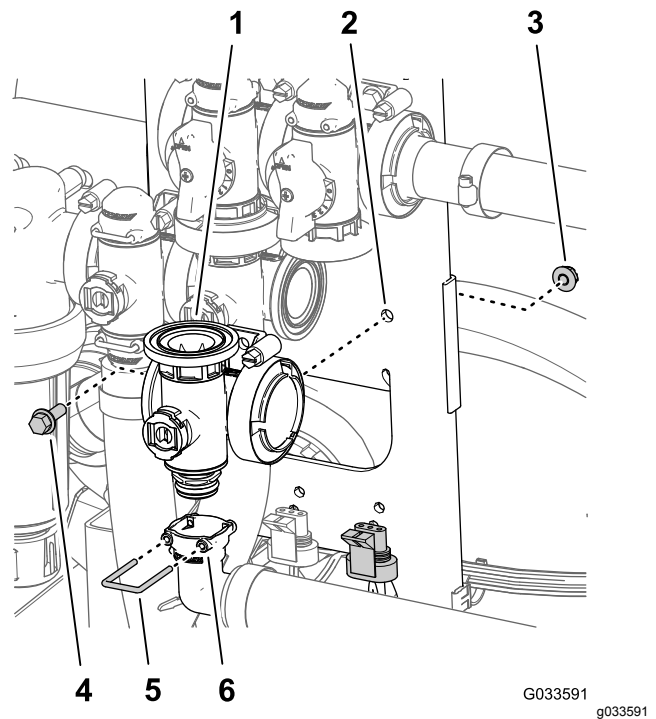

Figure 118
2. Remove the retainer that secure the 90° outlet fitting to the manifold coupling for the master-boom valve (Figure 118).
3. Remove the flange-head bolt (1/4 x 3/4 inch) and flange locknut (1/4 inch) that secure the master-boom valve to the valve mount and remove the valve manifold from the machine (Figure 118).